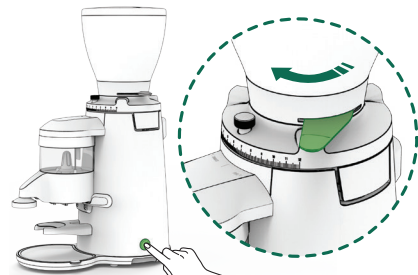

Fig. 4
8.1.4 Plug in the grinder, and press the main power switch (7) to ON position, and open the bean trap (4) to allow coffee to pass into the grind chamber (Fig. 4).
11.3.3 Loosen the grinding regulator screws using an Hex Allen screwdriver #3, according to **(Fig.3)**. Remove the regulator by pulling up. **(Fig.4)**.